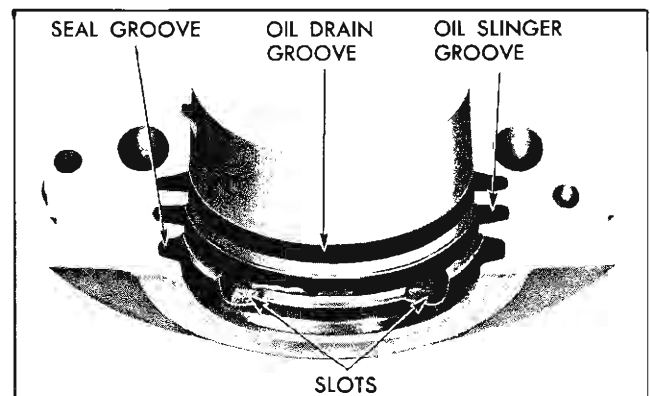

Fig. 6-56 Rear Main Bearing Cap
9. With rear main bearing cap on bench, remove oil seal and bearing shell (Fig. 6-56).
NOTE: The rear main bearing cap has three grooves, one for oil drain, one for the oil slinger and the other for the seal (Fig. 6-56). The bearing shells have two oil grooves. The front oil groove in the upper shell has an oil hole in the center while the rear oil groove has three oil drain holes evenly spaced. The upper and lower shells are not interchangeable due to location of tang slots in block and cap. For the front, front center, center, and rear center bearings install the shells with the oil grooves in the cylinder block (upper) position and install the shells without the oil grooves in the cap (lower) position. There will be no oil supply to the bearings if the shells are reversed.